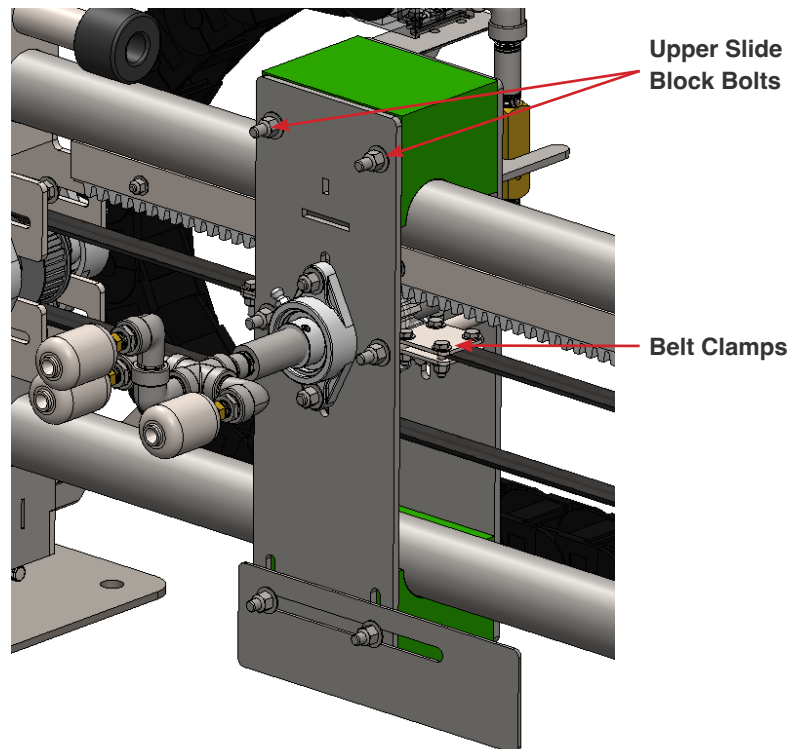

Fig. 7.2.4 - 1 - Replacing top slide block
3. Loosen and remove the top two bolts securing the top slide block to the trolley (Fig. 7.2.4 - 1).